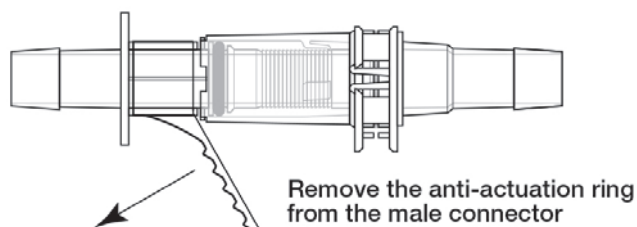

Figure 5.31. Removing the anti-actuation ring.
4. Support both the male and female Kleenpak connectors, and remove the anti-actuation ring from the male connector by pulling the tab toward the barbed end of the male Kleenpak connector (Figure 5.31).